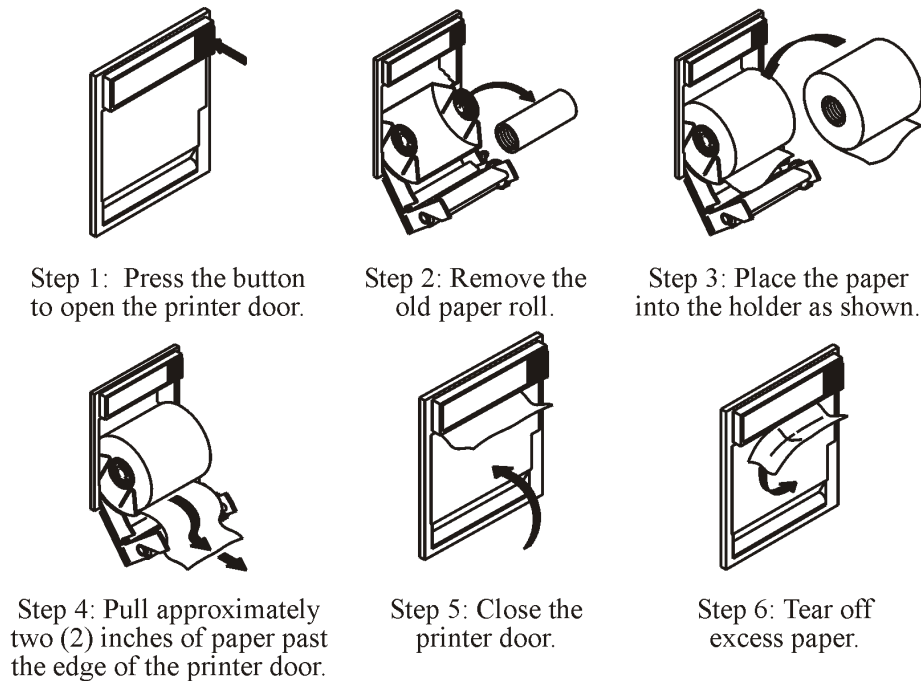

Figure 5-5. Loading the Recorder Paper
5.4 Loading Recorder Paper. Perform the procedure in Figure 5-5 to load the recorder paper.